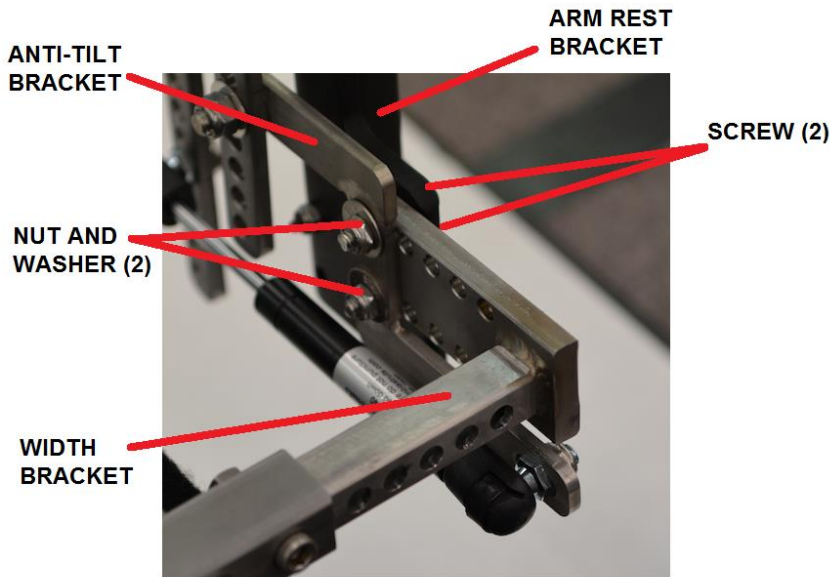

Figure 7. Anti-Tilt Bolts.
3. Secure both arm rest brackets to width bracket and anti-tilt bracket using two nuts, washers, and bolts (Figure 7).
3. Reposition anti-tilt height adjustment bracket so that anti-tilt wheels are between 1 and 2 inches below backrest spacer bar (Figure 7).
4. Install two nuts and washers securing anti-tilt height bracket (Figure 7).